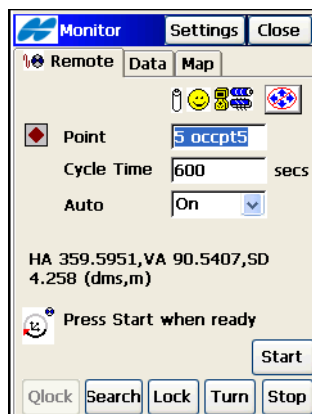

Figure 8-73. Monitor
4. After the point list is selected, tap the **Next** button. Another *Monitor* screen displays (Figure 8-73 on page 8-62).